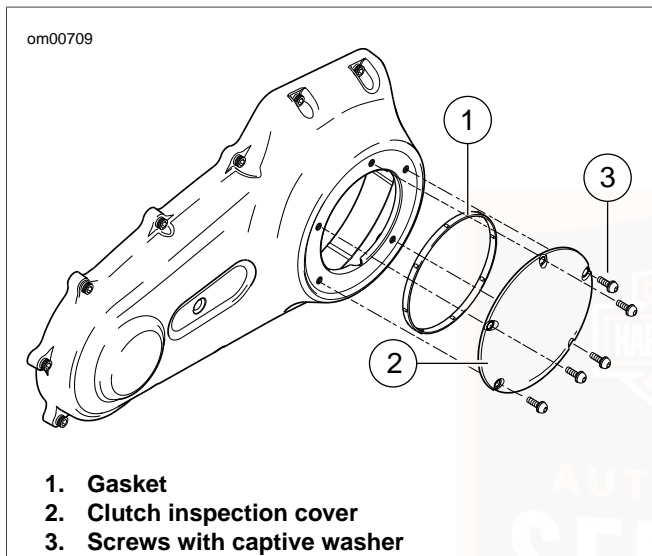

Figure 29. Clutch Cover: Dyna Models
2. See Figure 29. Using a T27 TORX drive head, remove five screws (3) (with captive washers) to free clutch inspection cover (2) from primary chaincase cover.